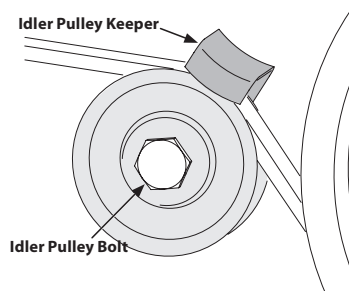

Figure 20
3. Remove the idler pulley bolt and move the belt from under the idler pulley keeper. See Figure 20.